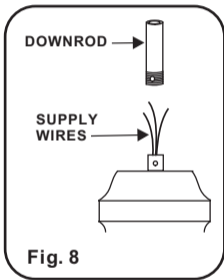
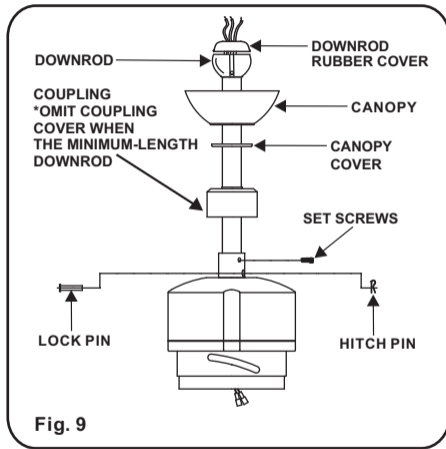

Fig. 8
Fig. 9
**Step 4.** Carefully feed fan wires up through the downrod. (Fig. 8) Thread Downrod into the Coupling until the holes are lined up and secure with the Lock Pin and Hitch Pin previously removed, tighten Set Screws. (Fig. 9)
**Step 5.** Slip coupling cover, canopy cover and canopy onto downrod. (Fig. 9) Carefully reinstall hanger ball onto rod being sure that cross pin is in correct position, set screws are tighten and wires are not twisted.
**Step 6.** Place downrod rubber cover onto the hanger ball. (Fig. 9)